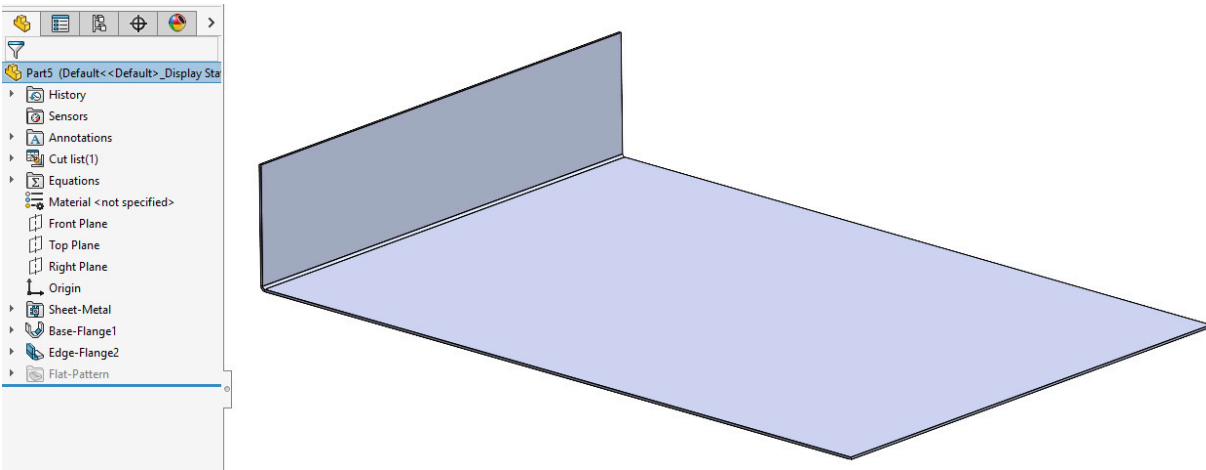

Figure 2.13: An example of an Edge Flange
13. Set the following parameters, then click **OK** to add the Edge Flange (*Figure 2.13*):
1. Continuing with the **part** from the previous section (see *Figure 2.13*), edit the Edge Flange feature by left or right-clicking on the **Edge-Flange** feature in the FeatureManager Design Tree and selecting the **Edit Feature** option.